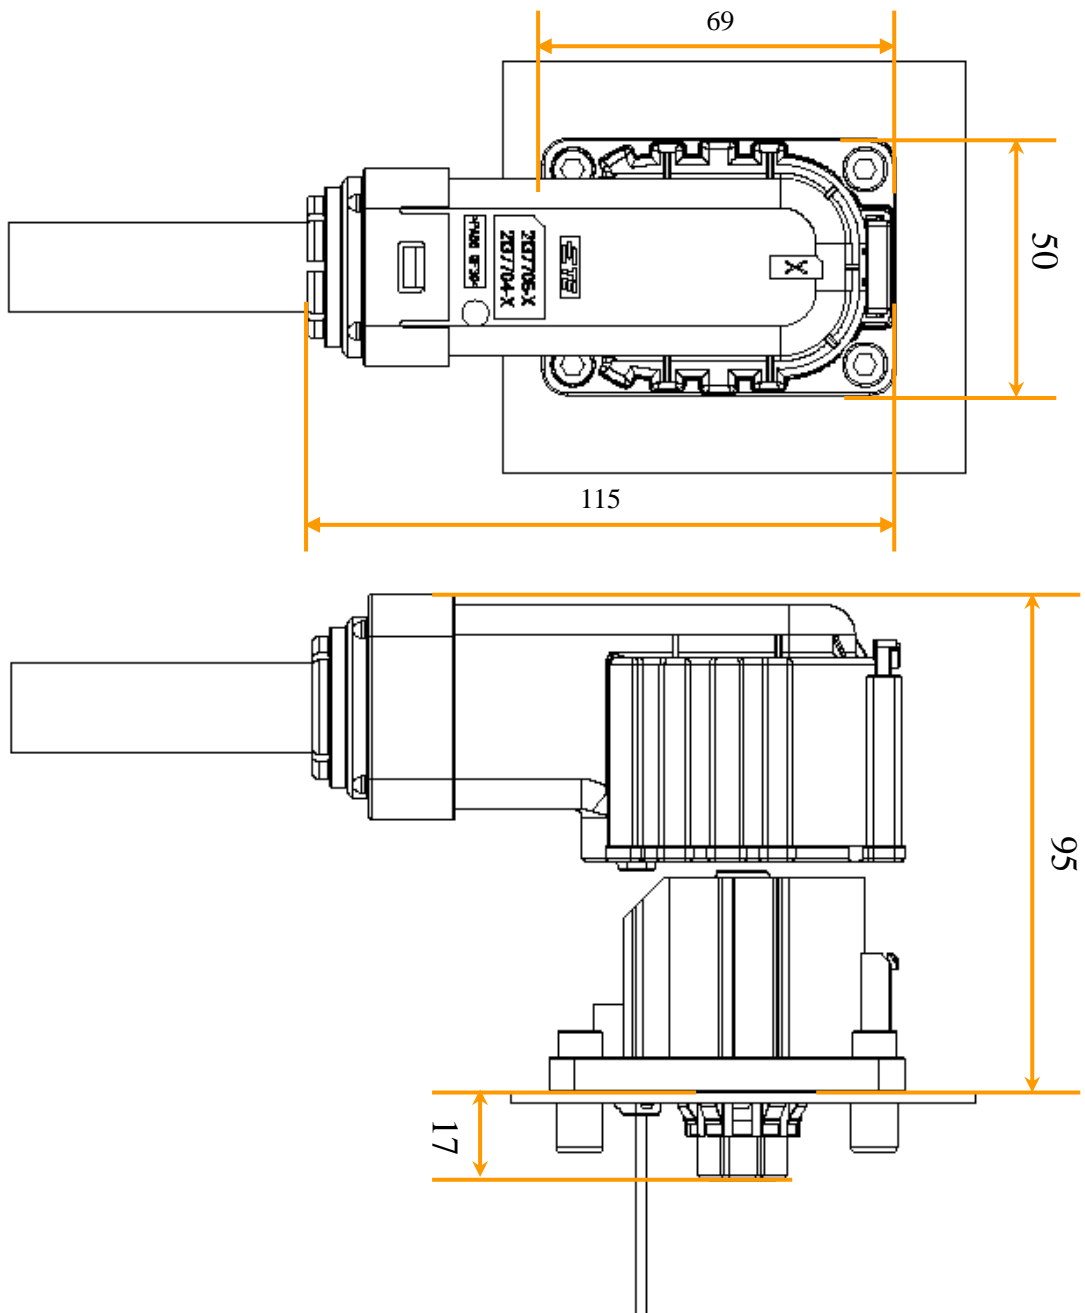

Figure 26
- C. For needed hand clearance, reference as shown in figure 26~27.